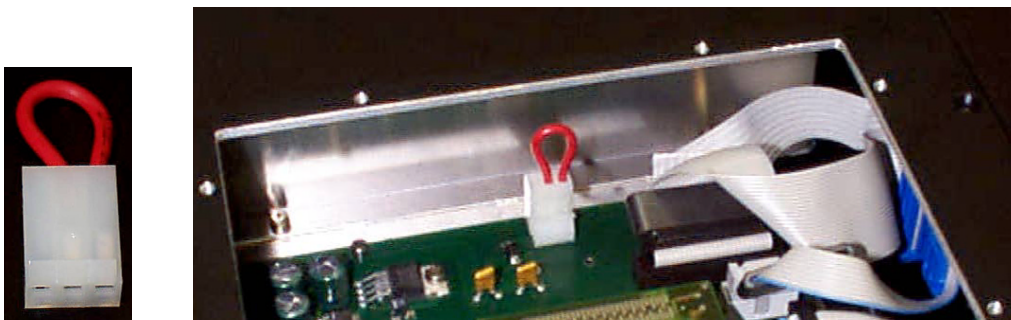

Figure 6 - Connecting the power supply jumper for external 24 Vdc operation
3. Connect the external 24 Vdc jumper onto the power connector, referring to Figure 6.